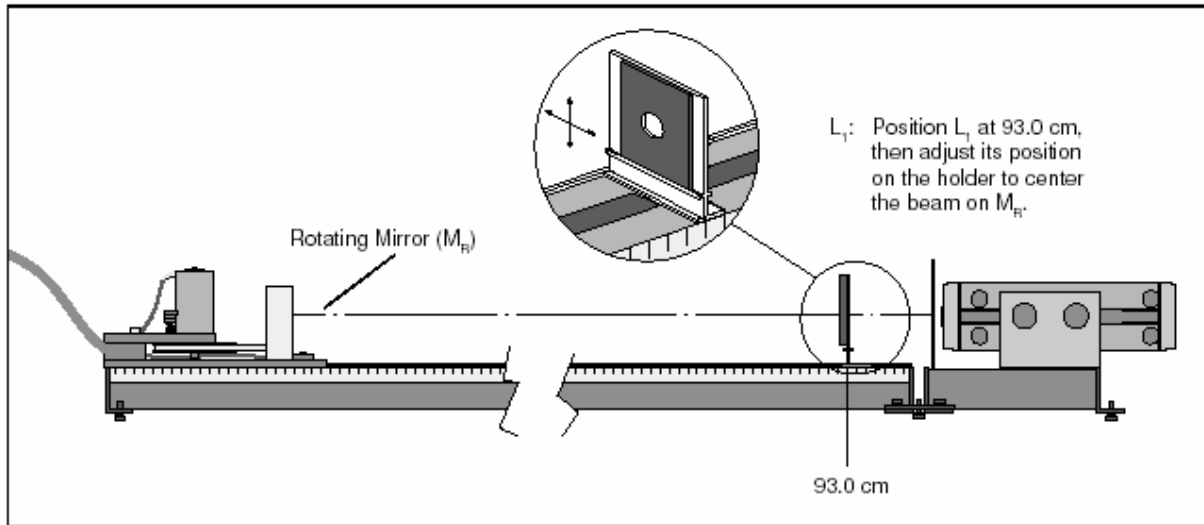

Figure 10: Positioning and Aligning  $L_1$
11. Mount the 48 mm focal length lens ( $L_1$ ) on the Optics Bench so that the center line of the Component Holder is aligned with the 93.0 cm mark on the metric scale of the bench. Without moving the Component Holder, slide  $L_1$  as needed on the holder to center the beam on  $M_R$  (see Figure 10). Notice that  $L_1$  has spread the beam at the position of  $M_R$ .